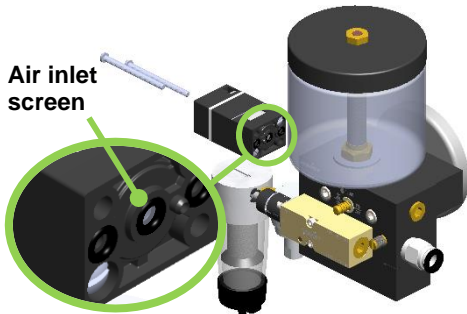

Figure 44: Air inlet screen
- If using a pneumatic pulse generator inspect the inlet screen for debris and clean if necessary. (See Figure 44)